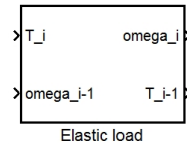

Figure 3: Elastic load implemented in Simulink: The mask.
- (c) Implement a generic elastic load as a Simulink sub-system, as shown in Figure 3. Either hardcode  $J_i = 1\text{kg} \cdot \text{m}^2$ ,  $K_i = 0.5\text{kg} \cdot \text{m}^2/\text{s}^2$  and  $D_i = 0.01\text{kg} \cdot \text{m}^2/\text{s}$ , or use mask parameters. Add a figure that shows the implemented block diagram to your answer.